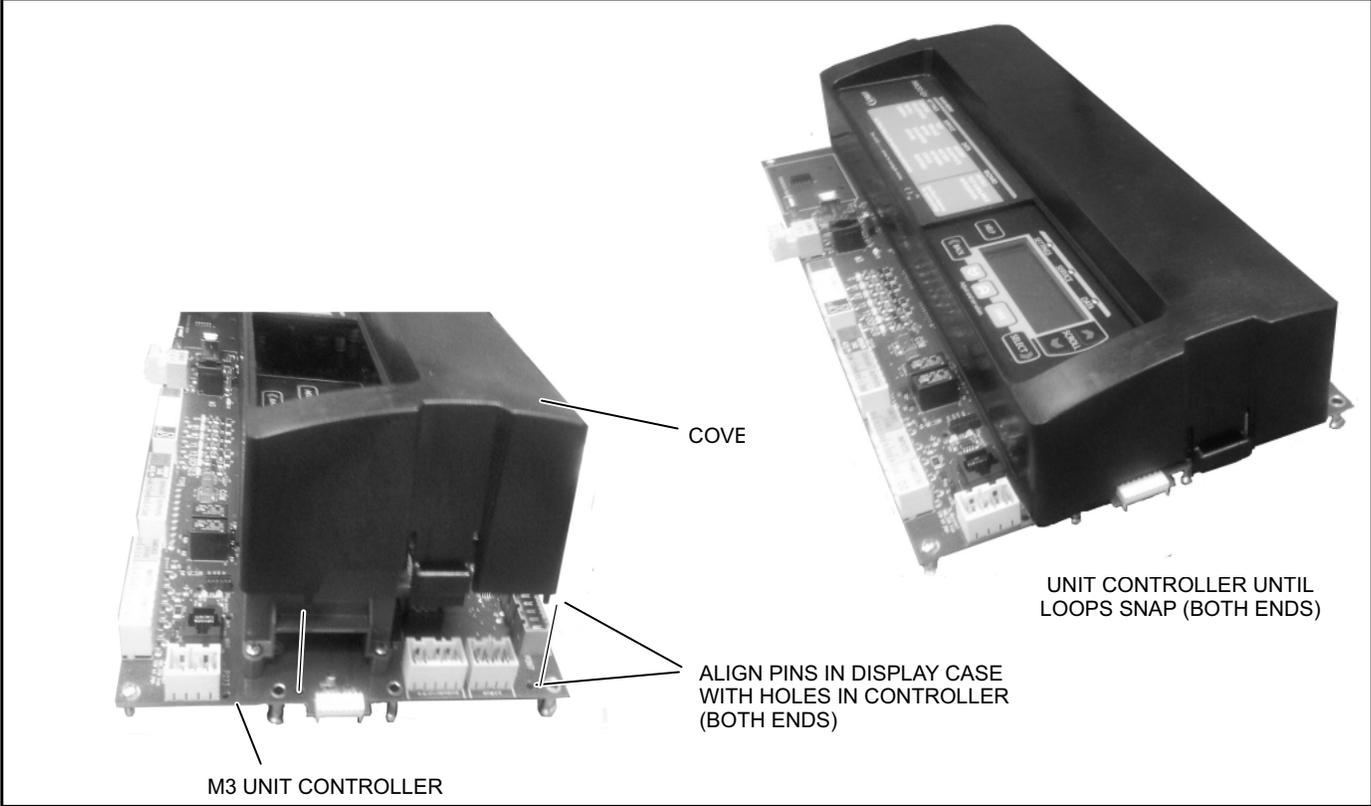

Figure 2. Installing M3 Unit Controller Cover
- 12. Reinstall the M3 unit controller cover (see figure 2)